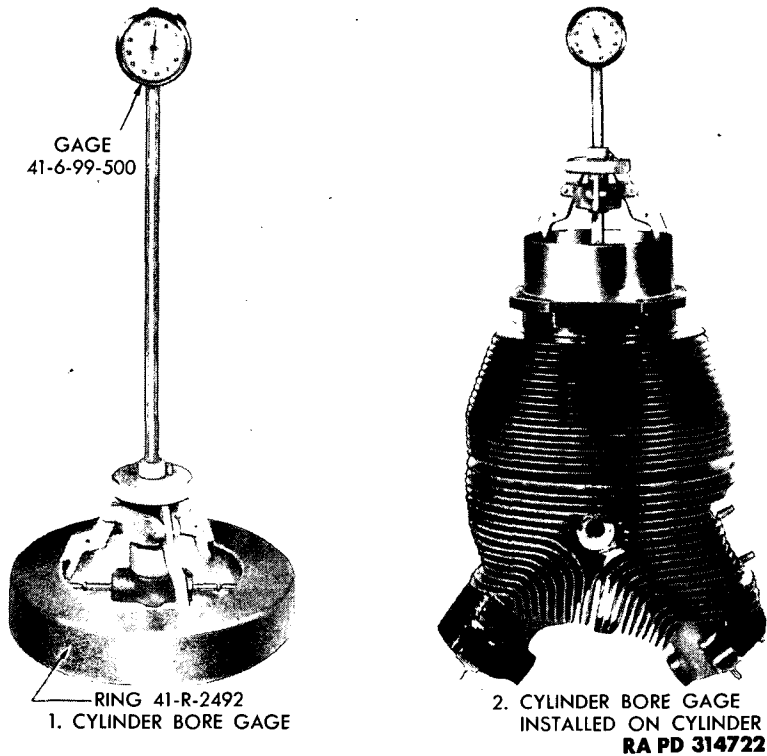

Figure 107 – Checking Cylinder Bore Diameter
(10) **CYLINDER BORES**. Inspect the inside diameter of the cylinder barrel in all cylinders for corrosion, scores, ring wear, and out-of-round condition. Measure cylinder bore diameter with cylinder bore gage (41-G-99-500) and ring (41-R-2492) (fig. 107). Cylinder barrels are of the choke type and are approximately 0.009 inch smaller at the top than at the bottom, to compensate for the increased expansion of the upper part of the bore at operating temperatures. For this reason, measure the bore at room temperature (70° F.) parallel to the piston pin, and 90 degrees to the piston pin $8\frac{1}{2}$, $8\frac{1}{4}$, 8, $7\frac{3}{4}$, $7\frac{1}{4}$, $6\frac{3}{4}$, $5\frac{3}{4}$, $5\frac{1}{4}$, $4\frac{3}{4}$, $4\frac{1}{4}$, $3\frac{3}{4}$, $3\frac{1}{4}$, $2\frac{3}{4}$, $2\frac{1}{4}$, $1\frac{3}{4}$, $1\frac{1}{4}$, and $\frac{3}{4}$ inches from the bottom of the cylinder. The difference between the reading for the $8\frac{1}{2}$ inch measurement and the $\frac{3}{4}$ inch measurement gives the choke. Measure the choke for each cylinder. If cylinder choke is less than 0.004 inch, but is worn irregularly, hone bore until irregularities have been cleaned up. If choke is worn beyond the allowable limits and cannot be cleaned up to within the allowable limits, replace cylinder.